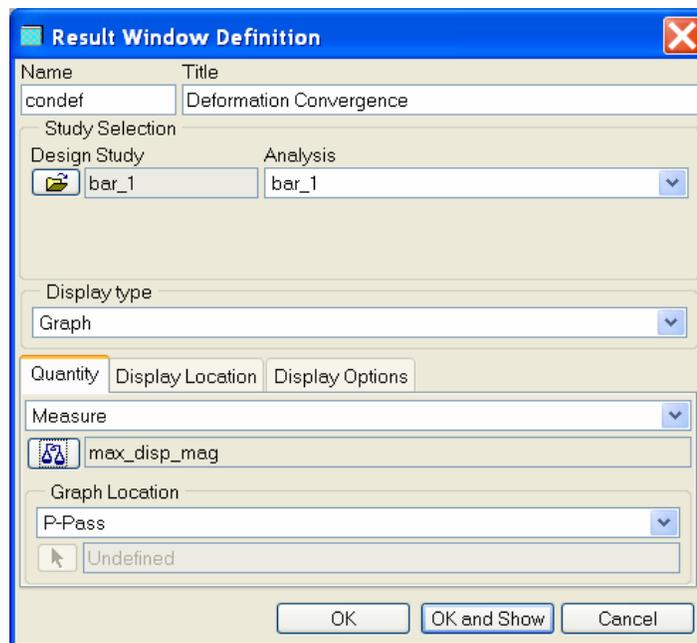

Figure 26
- Create Deformation Convergence graph as shown in Figure 26.